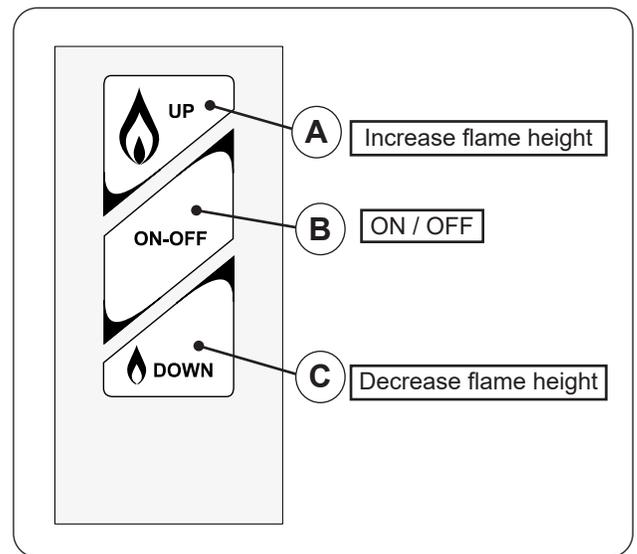

Fig. 2-1 Touch pad panel functions
The following operations can be done from the wall switch/touch pad panel see below and Fig. 2-1:
2. Press and hold the ON/OFF button until a short beep has begun and confirms the start sequence; then release the button. See Fig. 2-1, B.
3. Press and hold "A" to increase the flame height. See Fig. 2-1, A.
4. Press and hold "C" to decrease the flame height. See Fig. 2-1, C.
5. Press and hold "B" to turn off the burner system. See Fig. 2-1, B.